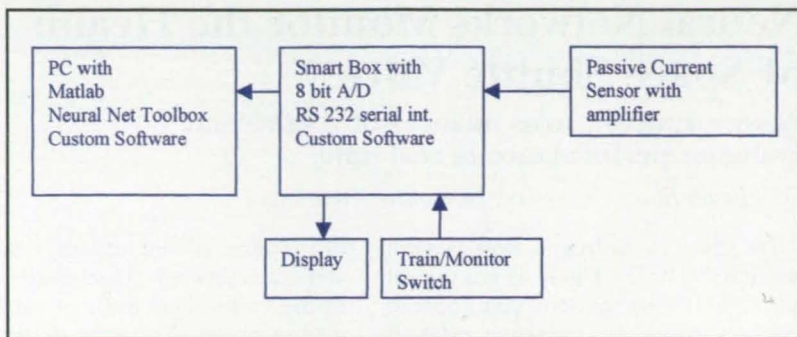

Figure 4. System block diagram.
operated. A prototype system was designed and built by Oklahoma State University and demonstrated to NASA personnel. The prototype consists of a personal computer (PC), a smart box, and a current sensor (see Figure 4). The current sensor signal is amplified and digitized. The data is collected, with 8-bit resolution at 10,000 samples per second. When the valve is energized or de-energized, the waveform is analyzed and the results of the particular activation are displayed on a 2-line by 16-character display that is an integral part of the smart box. The PC is used only for user interface and initial NN design and training. Once training is complete, the smart box operates standalone and may be disconnected from the PC.